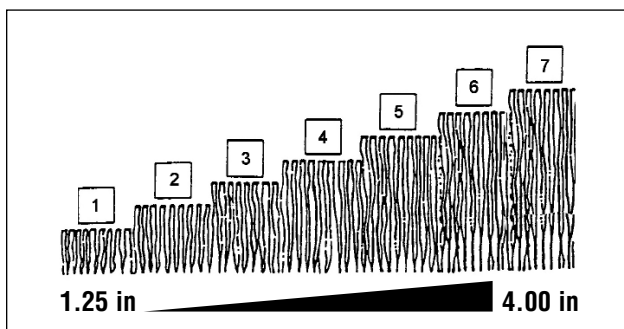

Figure 8: Cutting height settings (approximate)
2. Set all wheels at the same cutting height. The highest cutting position is Notch 7 (Figure 8). The lowest cutting position is Notch 1.